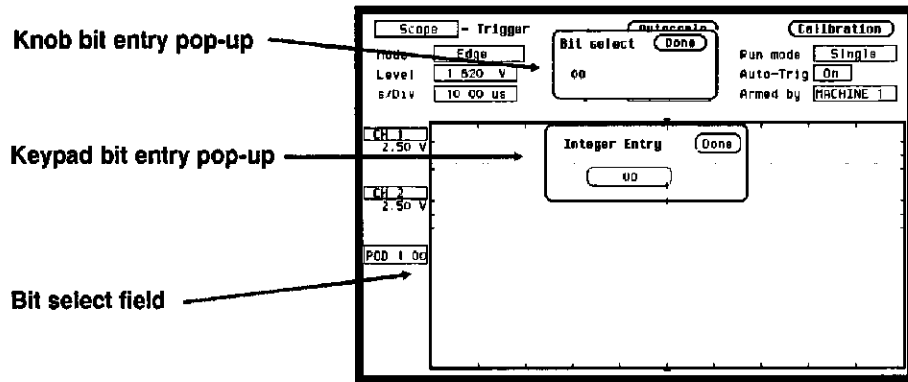

Figure 26-8. Knob And Keypad Entry Pop-ups
6. Each pod that is inserted, will have the bit number incremented by one, starting from "00". To modify the bit number, select the Bit select field which is just to the right of the Pod number. See the Bit selection field in figure 26-8.
- When the Bit select pop-up appears, enter the bit number you want by rotating the knob or by using the keypad. The keypad will appear when the first key is touched. See figure 26-8.